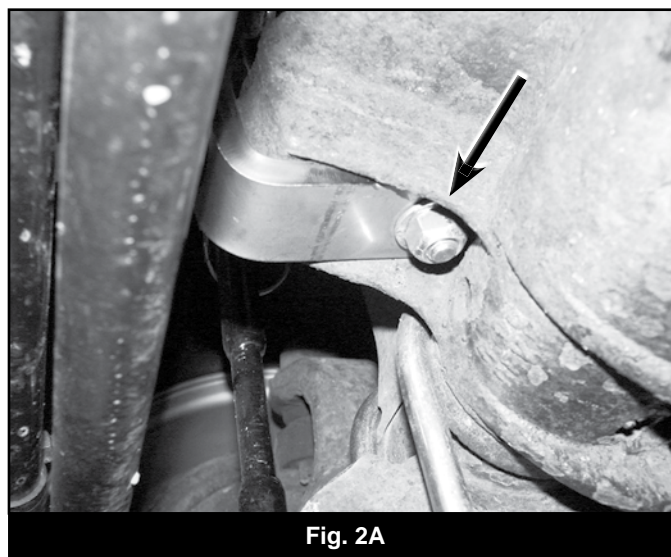

Fig. 2B
11. Reattach the new bracket to the axle with the 12mm hardware. Also attach the bracket through the newly drilled hole with a 7/16" x 1-1/4" bolt, nut and 7/16" SAE washer. Torque 7/16" and 12mm hardware to 50 ft-lbs. (Fig. 2B)